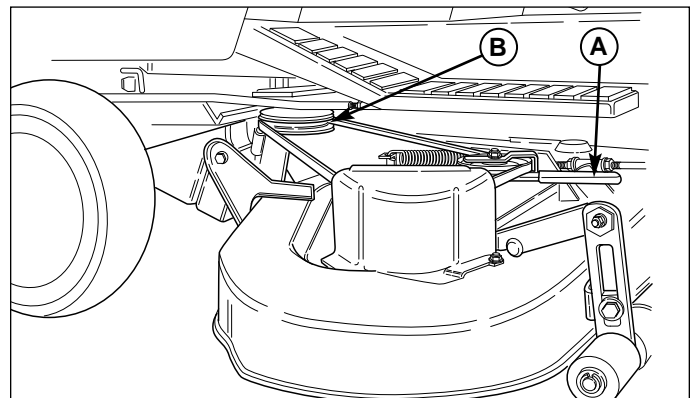

Figure 11. Removing & Installing Belt
5. Remove belt from PTO pulley (B, Figure 11).
5. See Figure 11. Move idler arm (A) to relieve belt tension. Install belt onto the PTO pulley (B).
7. Remove belt from PTO pulley (B, Figure 11).
7. See Figure 11. Move idler arm (A) to relieve belt tension. Install belt onto the PTO pulley (B).